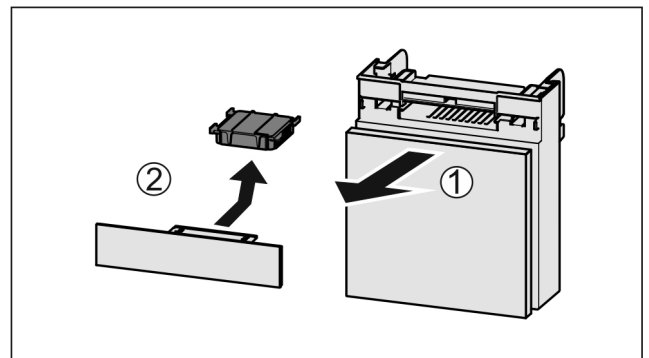

Fig. 76
- ▶ Pull out the compartment *Fig. 76 (1)*.
- ▶ Remove the carbon filter *Fig. 76 (2)*.